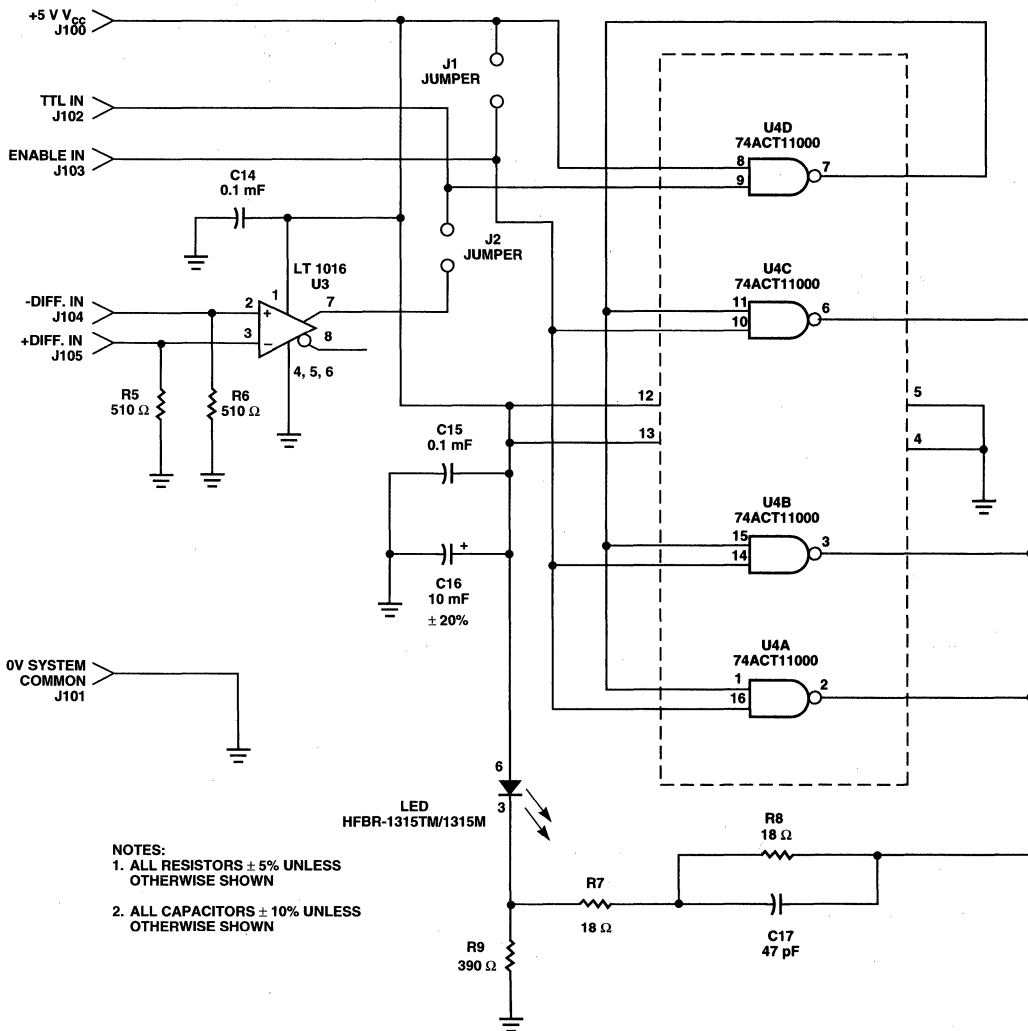
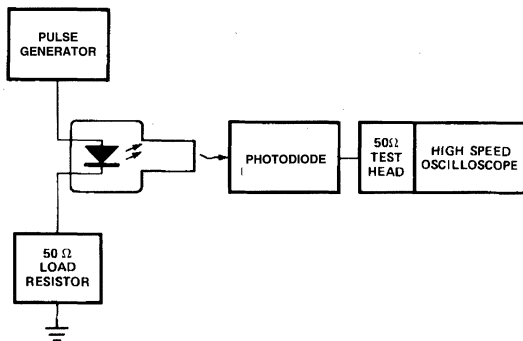

Figure 1. Recommended Transmitter Circuit.
Figure 5. Test Circuit for Measuring t_r, t_f Without Pre-Bias.
- Optical Power Budget applies to HFBR-1315TM/1315M and HFBR-2315T/2315M in the recommended application circuit (Figures 1 and 2). Worst case transmitter coupled power (P_T) is -27 dBm peak, -30 dBm average. Worst case receiver sensitivity is -36 dBm peak, -39 dBm average. Refer to Application Note 1082 for details.
- Optical rise and fall times are measured from 10% to 90% with single-mode fiber. The "No Pre-bias" response time is measured in the recommended test circuit (50 ohm load, Figure 5) at 25 MHz, 50% duty cycle. The response time "With Pre-bias" is measured in the recommended application circuit (Figure 1).